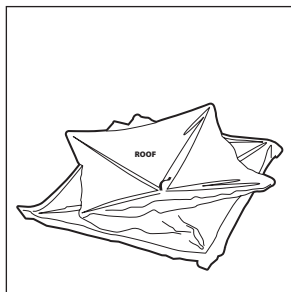

FIGURE 1
2. Lay the blind flat on the ground and be completely sure there is no material twisted or overlapping the ends of any poles. **SEE FIGURE 1.**